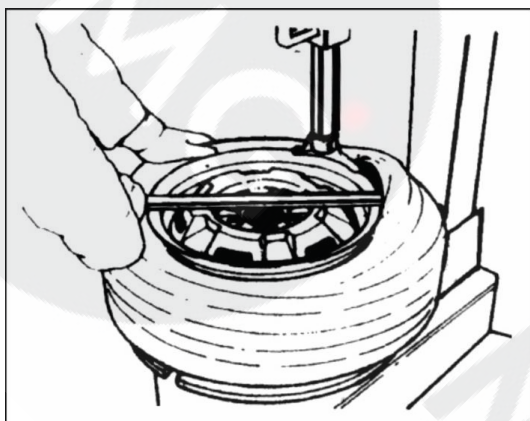
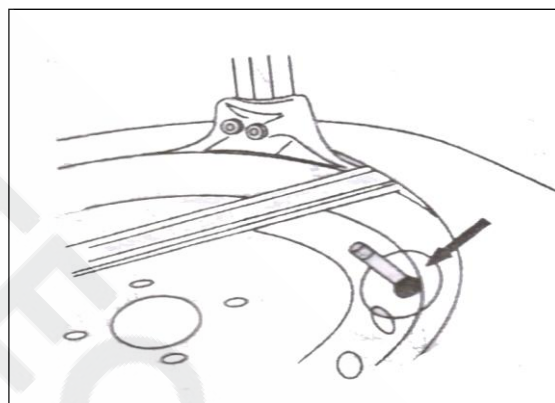

FIG23
FIG24
4.1.4 Use the crowbar to detach until the lip to the hump of the demount tool (fig23). Step the turntable rotation pedal (fig 2-8) to rotate the turntable clockwise until the rim of the wheel fall off. If handling the tube tire, to avoid the damage on the tube, you should keep the nozzle of the tire 10cm from the right side of the demount tool See fig24.